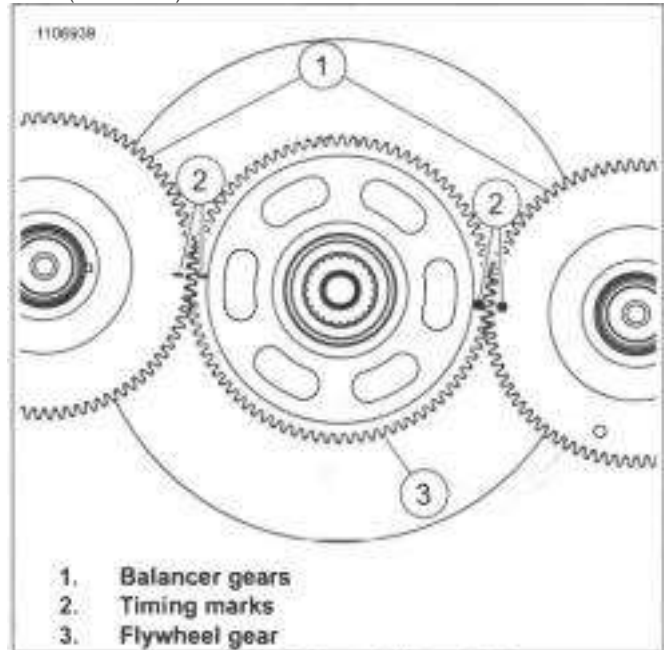

Figure 4-63. Balancer Timing Marks
- See Figure 4-63. When aligning timing marks match dash to dash and circle to circle.
See Figure 4-63, Install balancers.